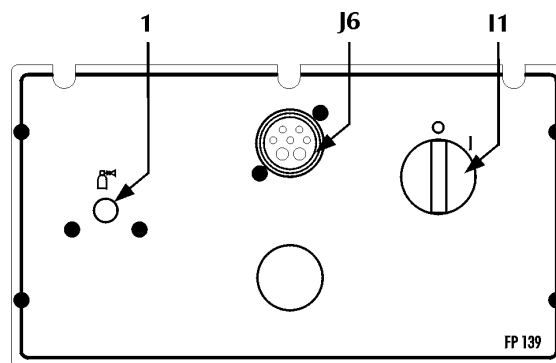

Fig.4
2.2 Kontrollpanelet bak (Fig. 4)